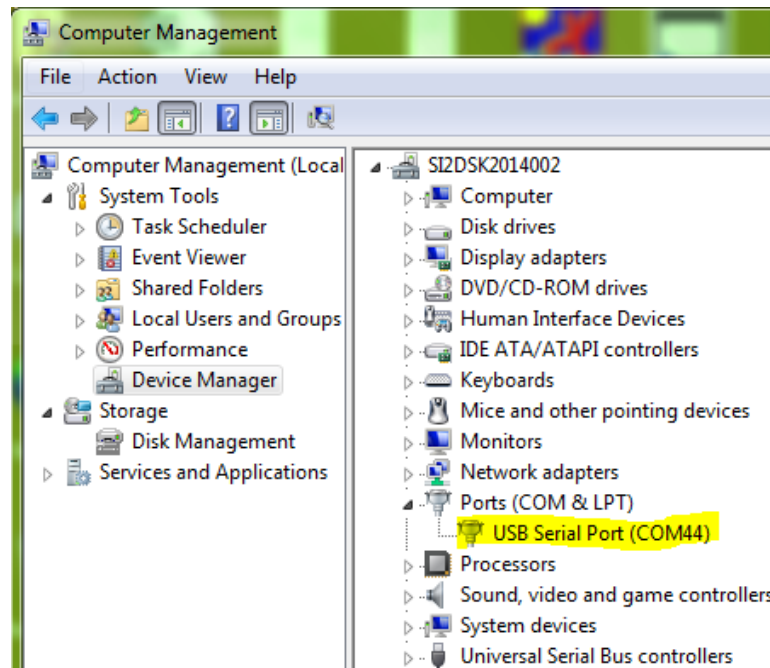

Figure 4: Device Manager Window
4. Click on Edit/Edit Send Sequence List. A 'Edit Send Sequence' window will open. [Figure 4]